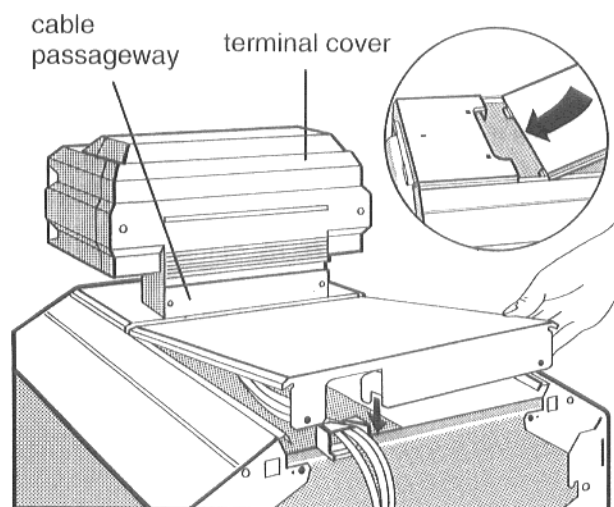

Fig. 18
- Screw the cover of the cable channel back onto the control panel (Fig. 18).
- Screw on the terminal cover again tightly onto the control panel (Fig. 18).
- Push the rear boiler jacket with the clips under the front boiler jacket and press down at the rear (Fig. 18).